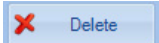

Figure 115 - Valve Details
3. Click  Edit and Figure 115 appears.